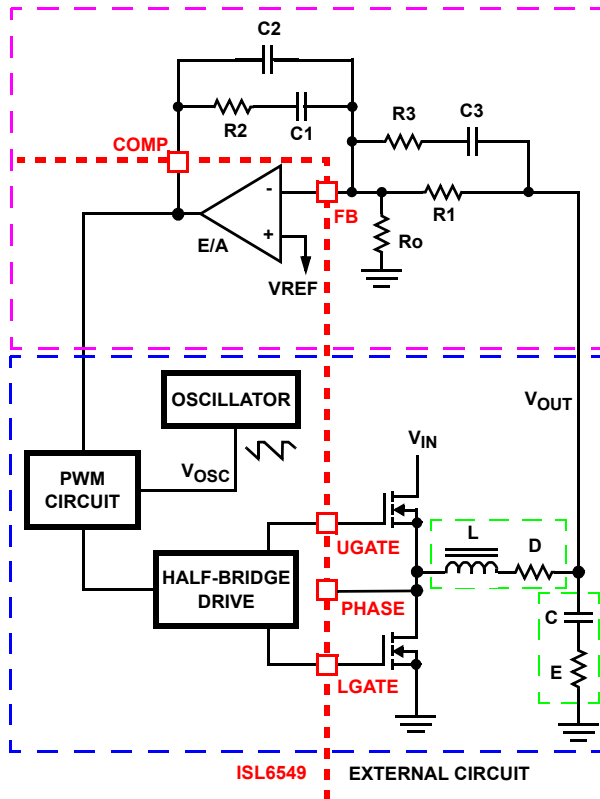

FIGURE 10. VOLTAGE-MODE BUCK CONVERTER COMPENSATION DESIGN
Figure 10 highlights the voltage-mode control loop for a synchronous-rectified buck converter, applicable to the ISL6549 circuit. The output voltage (V_{OUT}) is regulated to the reference voltage, V_{REF} . The error amplifier output (COMP pin voltage) is compared with the oscillator (OSC) modified sawtooth wave to provide a pulse-width modulated wave with an amplitude of V_{IN} at the PHASE node. The PWM wave is smoothed by the output filter (L and C). The output filter capacitor bank's equivalent series resistance is represented by the series resistor E.
The compensation network consists of the error amplifier (internal to the ISL6549) and the external R1-R3, C1-C3 components. The goal of the compensation network is to provide a closed loop transfer function with high 0dB crossing frequency (F_0 ; typically 0.1 to 0.3 of F_{SW}) and adequate phase margin (better than 45 degrees). Phase margin is the difference between the closed loop phase at F_{0dB} and 180° . The equations that follow relate the compensation network's poles, zeros and gain to the components (R1, R2, R3, C1, C2, and C3) in Figure 10. Use the following guidelines for locating the poles and zeros of the compensation network:
1. Select a value for R1 (1k Ω to 5k Ω , typically). Calculate value for R2 for desired converter bandwidth (F_0). If setting the output voltage via an offset resistor connected to the FB pin, R_0 in Figure 10, the design procedure can be followed as presented.